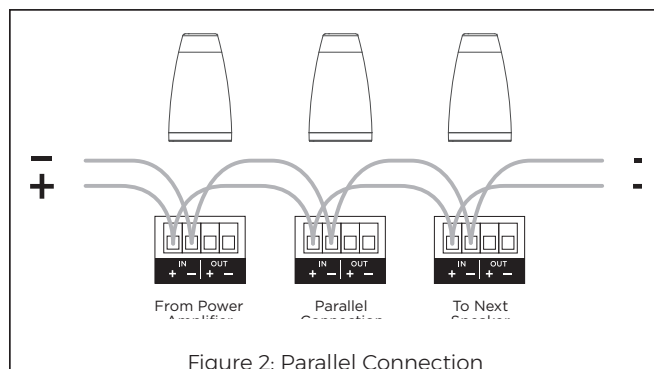

Figure 2: Parallel Connection
**STEP 14:** When using multiple speakers you can connect the speakers either in parallel or in the loop through method as shown below (see Figure 2 and 3).